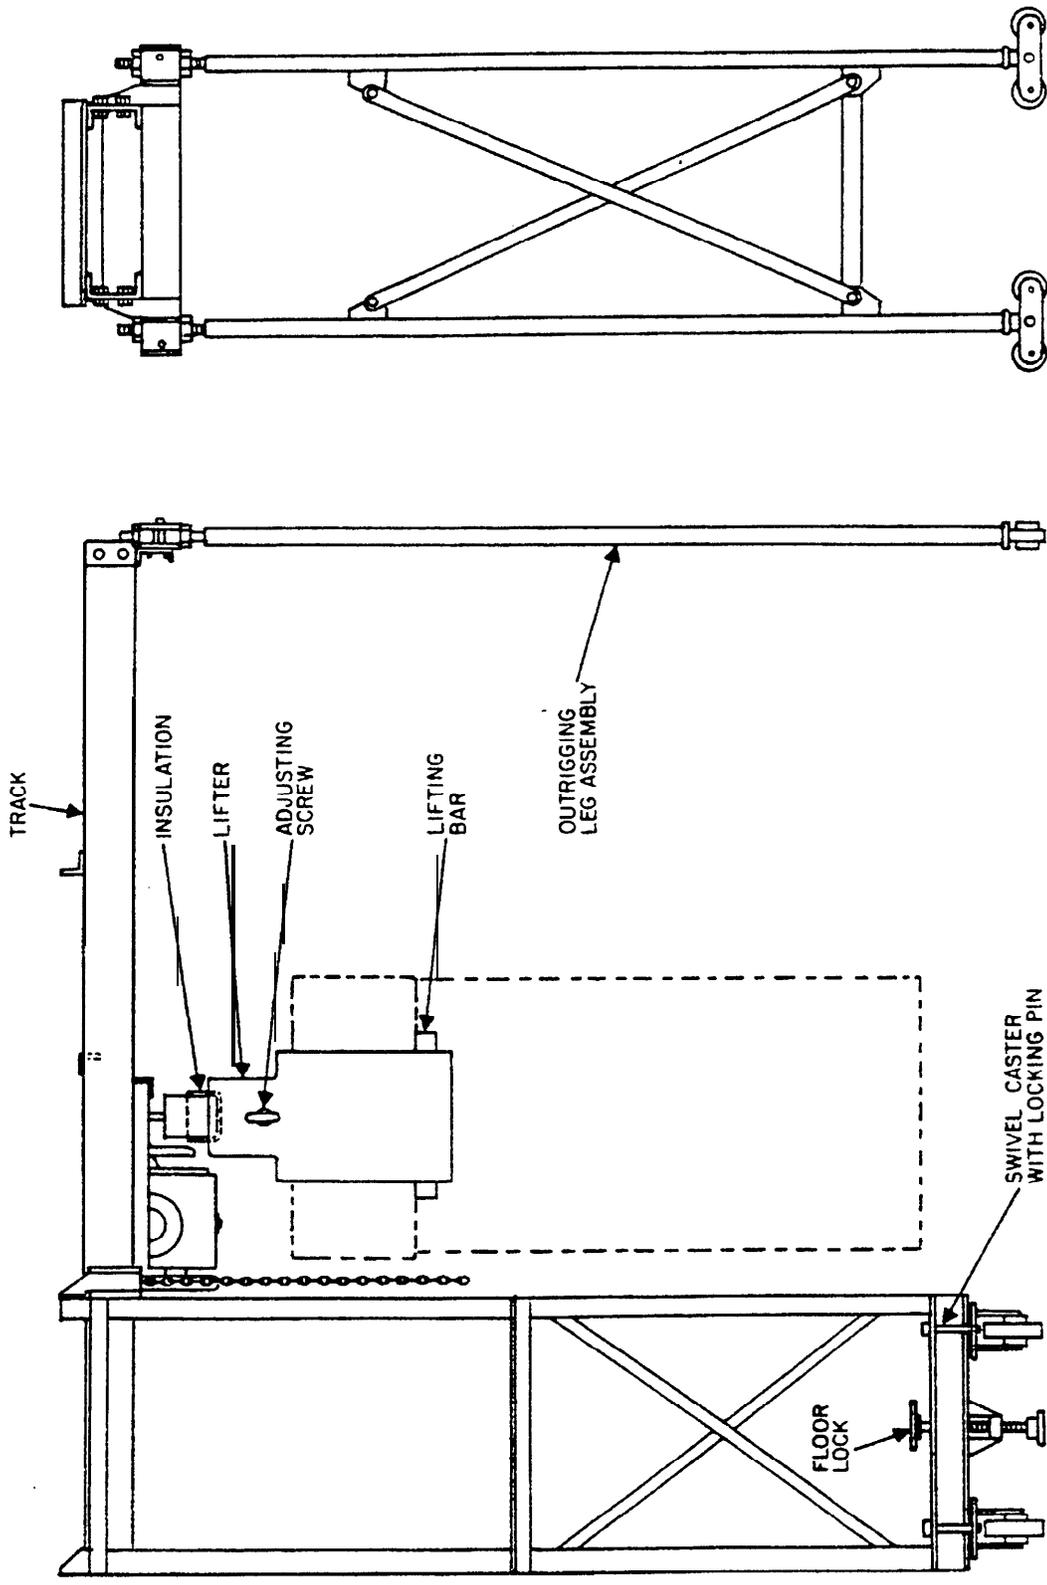

Figure 5. Typical Battery Hoist.
6.01 Use a suitable battery hoist for placing the cells (Figure 5).